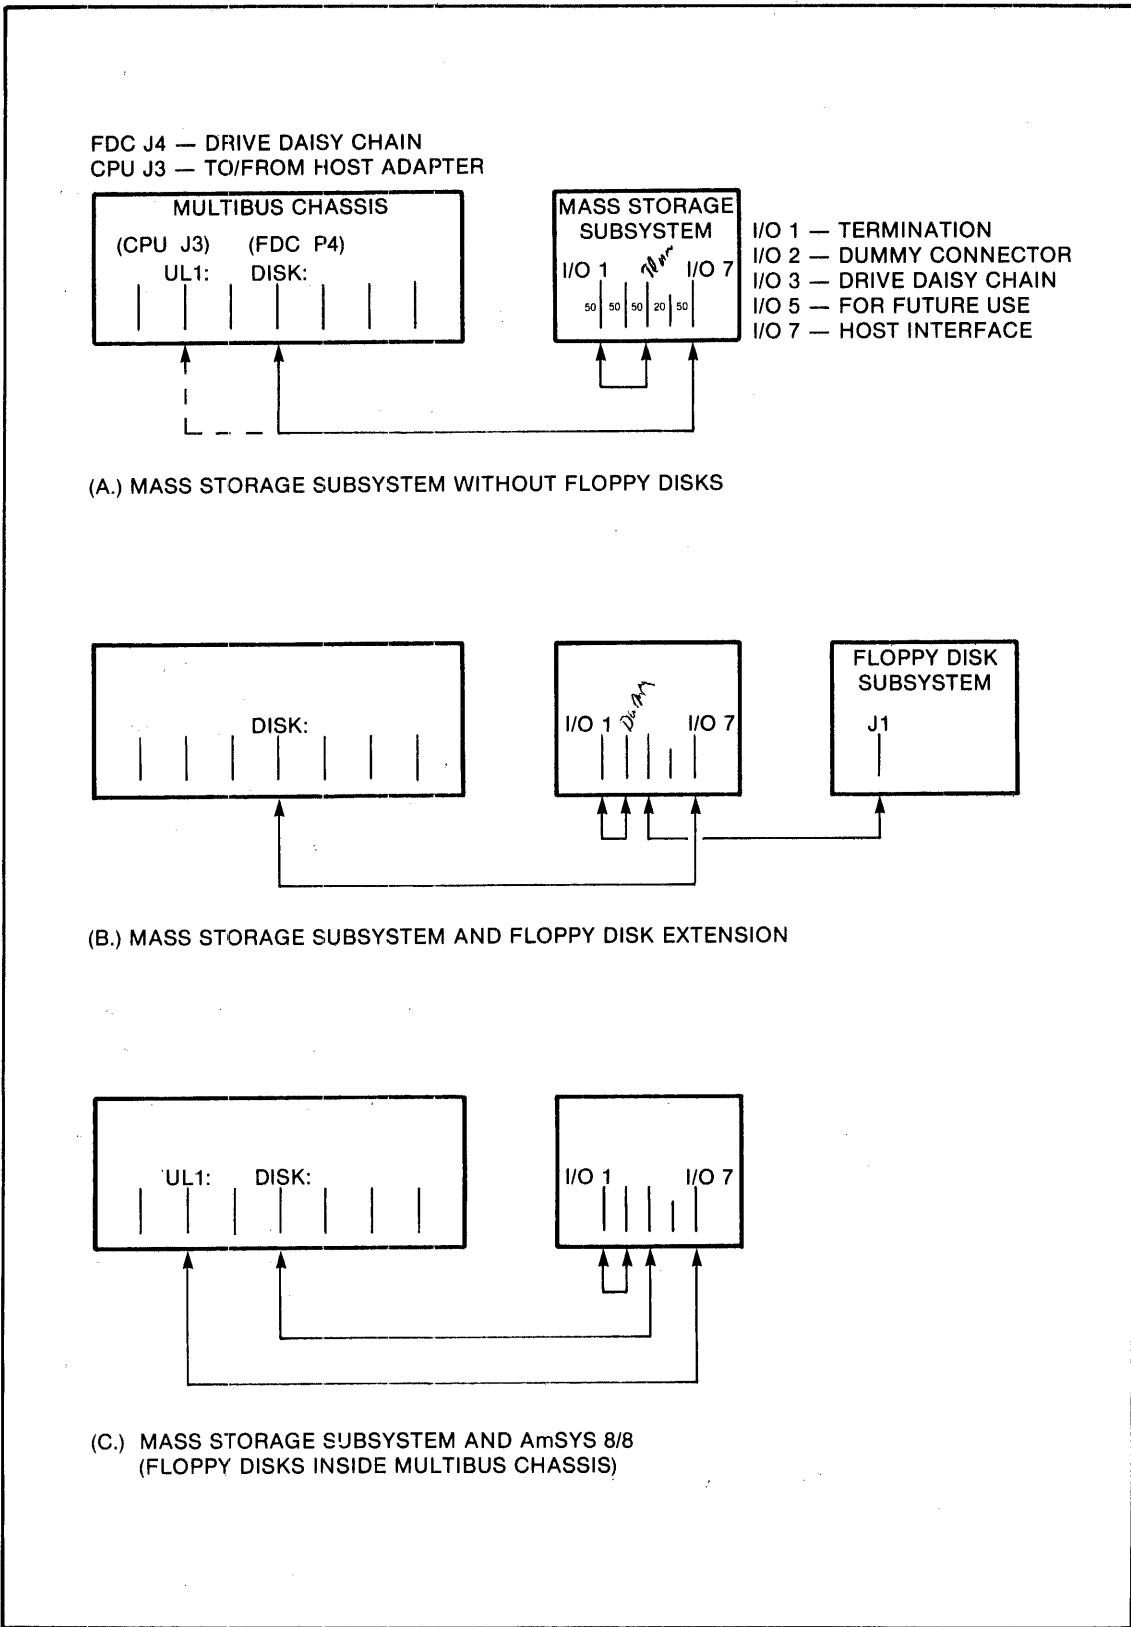

Figure 2-4. Cabinet Interconnections
5. Connect the two chassis together with a 50-pin jumper cable. Attach one end to the Winchester disk cabinet, connector I/07. Attach the other end either to the Multibus chassis connector DISK: (if cable FDC P4 was used in step 3); or to connector U11: (if cable CPU J3 was used in step 3. First remove any other cable from connector U11: if installed). See figure 2-4(a).
6. Connect the Multibus chassis and Winchester disk chassis together with a 50-pin jumper cable. Attach one end to the Winchester disk cabinet, connector I/07. Attach the other end to the Multibus chassis connector DISK:. See figure 2-4(b).
Attach the second cable between Winchester cabinet connector I/0 3 and Multibus connector DISK: (from connector FDC P4). See figure 2-4(c).